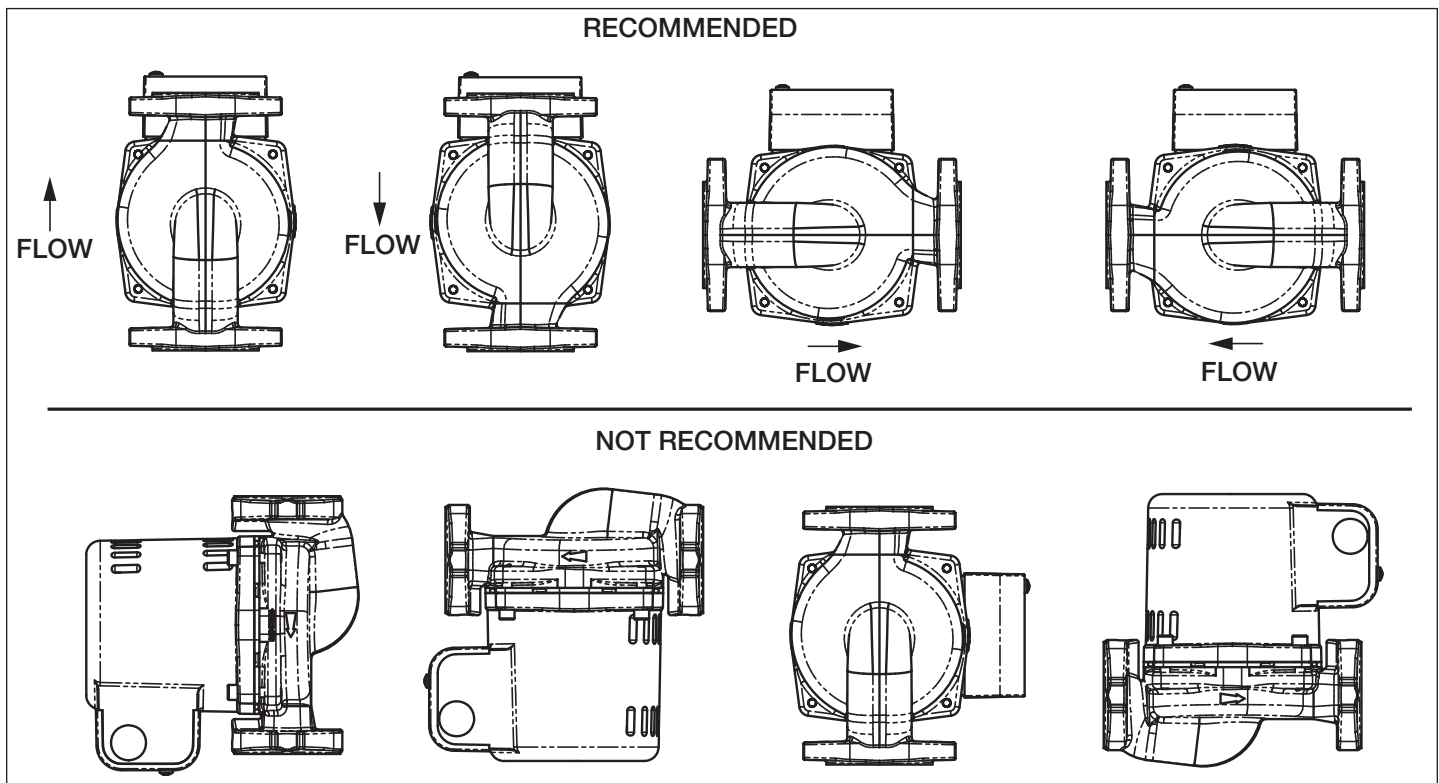

Fig. 1 – Installation Positions
- Always install pump with the motor shaft in the horizontal position and the capacitor/conduit box oriented on top of the motor housing, as shown in Fig. 1.